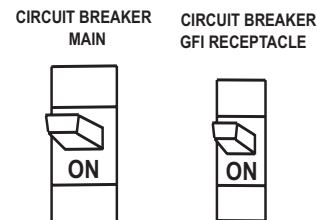

Figure 67. Main and GFCI Circuit Breakers
12. If there are no abnormal problems shown on the engine controller LED display, turn both the MAIN and GFCI circuit breakers to their ON position (Figure 67).